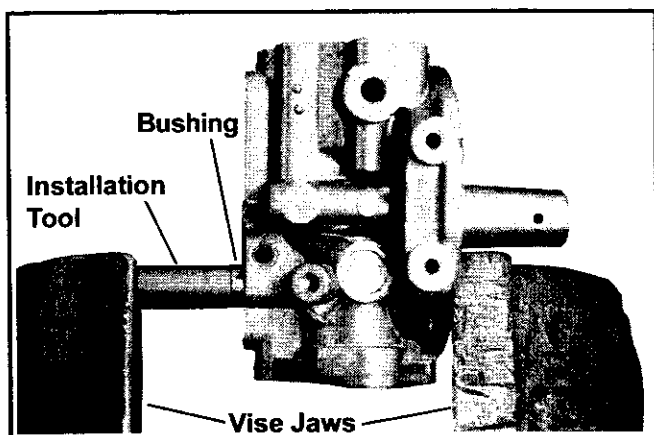

Figure 2. Installing Throttle Shaft Bushing.
3. Coat the outside surface of throttle shaft bushing with Loctite® from kit. Slip bushing over shaft. Using installation tool from kit and vise, press bushing into counterbore until it bottoms in carburetor body. Refer to Figure 2.